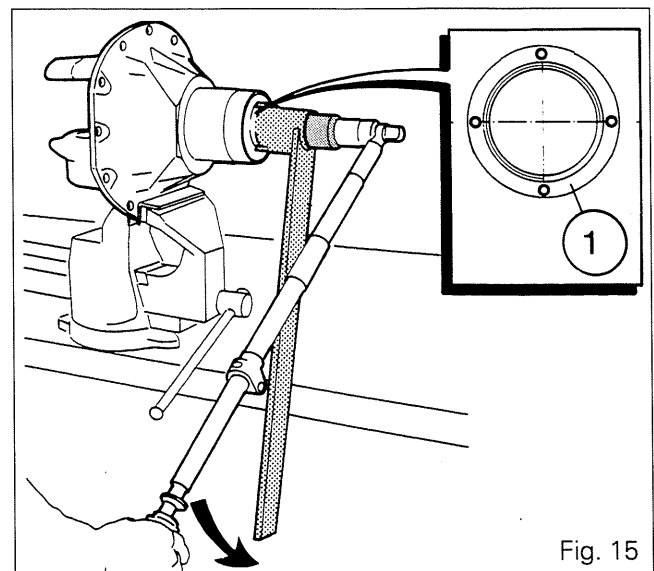

Fig. 15
51. Fit the nut (1) and fully tighten with spanner 3376881M1. Using a special sleeve and a torque wrench, turn the bevel drive pinion until a torque of between 450 and 500 Nm is obtained (Fig. 15).
52. Check that there are no burrs on the nut (1). Grease the lips of seal (4) and fit it fully home on the shoulder using a locally-manufactured drift (See §M).